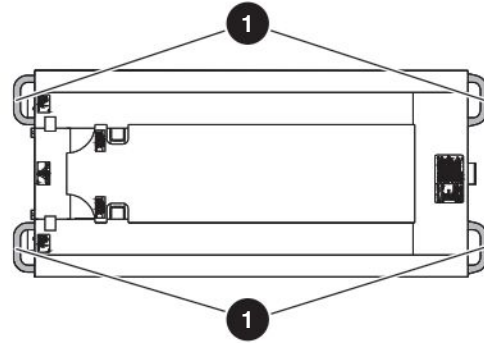
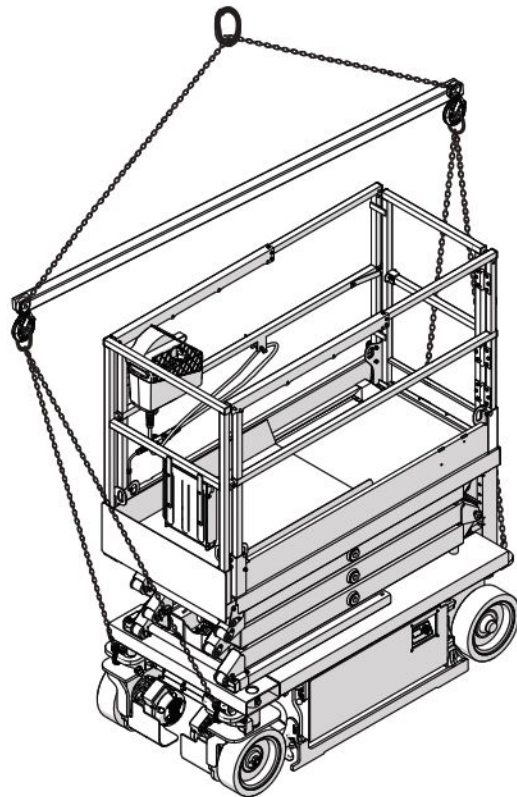

Figure 01 Lift and tie-down points
Figure 02 Appropriate method to hoist
- Attach the rigging to all **four lift points ①**, or lift with the forks in the designated **forklift pockets ②**. Refer to Figure 01, Figure 02, and Figure 03.
When you transport the MEWP it must be attached to a truck or trailer deck. Use the available tie-down points 1 to attach the MEWP. Refer to Figure 01. If you do not obey, there is a risk of death or serious injury.
- Tie down the MEWP to the transport vehicle using the four tie-down points 1. Refer to Figure 01.